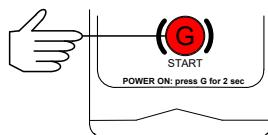

Figure 3
1. Press G and hold it for two seconds (*Fig. 3*);